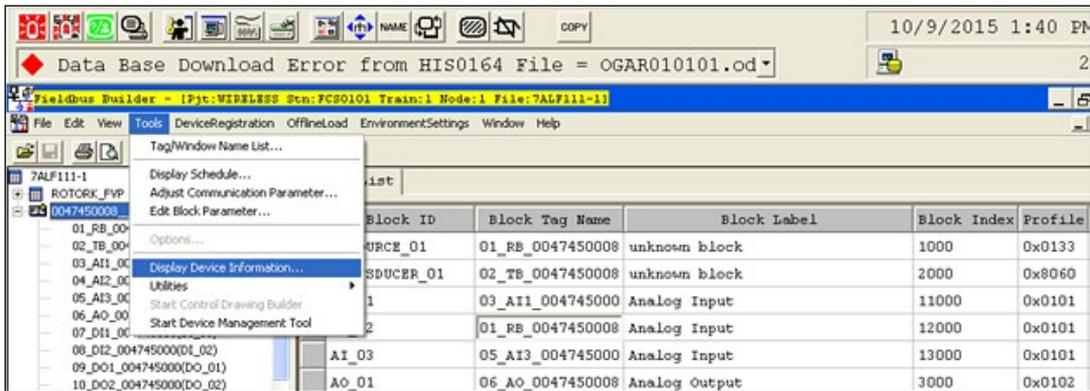

Figure 85 - Invoke Display Device Information Window
1. Open the *Device Information* window by selecting **Tools->Display Device Information** from the *Fieldbus Builder* main menu (Figure 85).